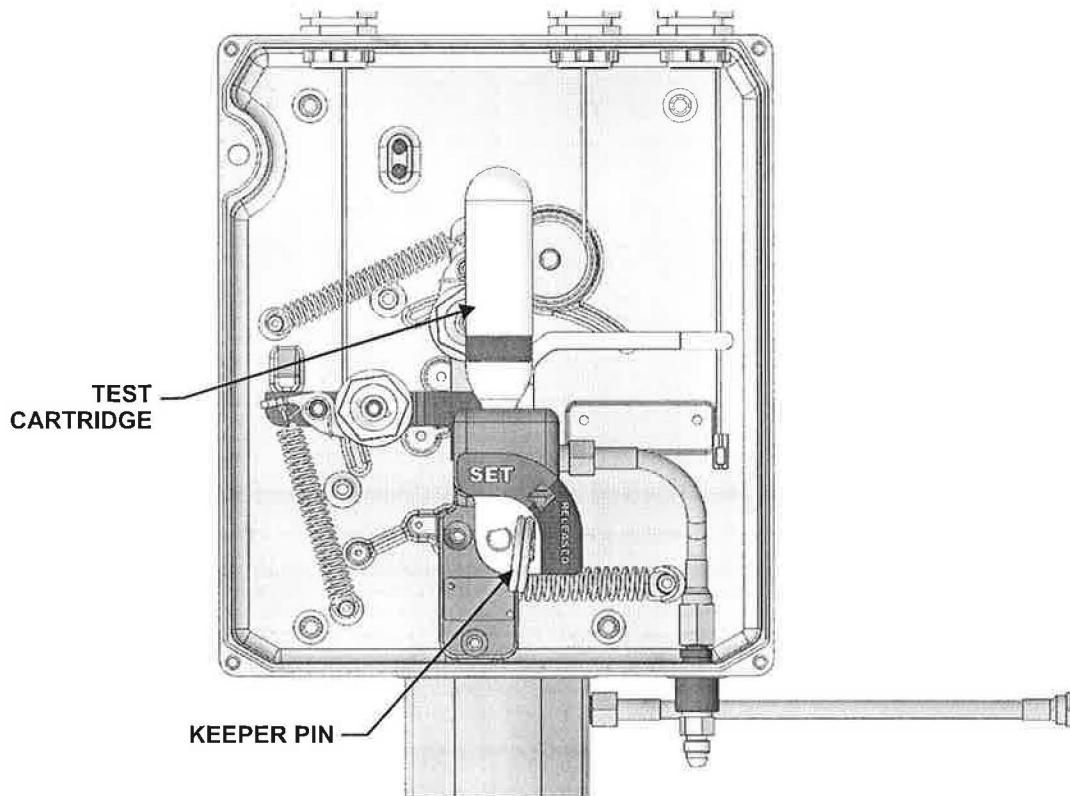

Figure 5-13. UCH Control System, Test Cartridge Placement
1. After ensuring that the system is in the 'Set' position and the Keeper Pin is in place, locate the Test Cartridge (P/N 120044). Carefully install the cartridge into the valve assembly of the UCH Control System. Tighten until cartridge is snug (see Figure 5-13). It is permissible to perform this test with the System Cartridge.